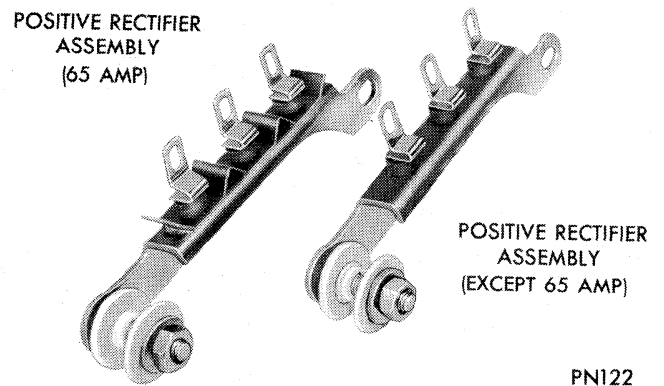
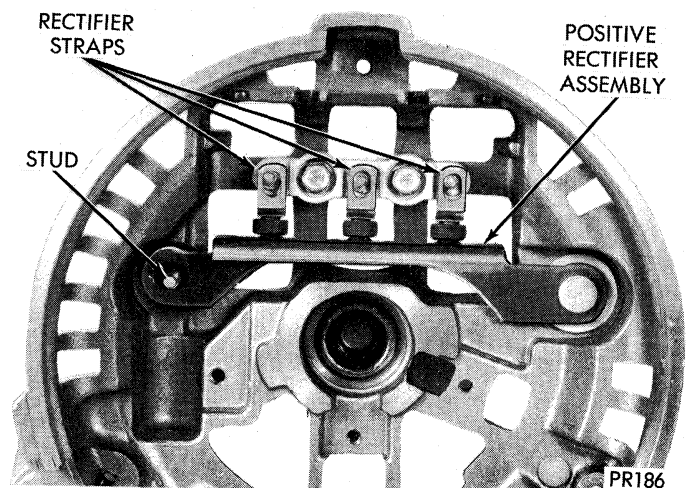

Fig. 33—Positive Rectifier Assembly
Fig. 34—Installing Positive Rectifier Assembly
(7) Install positive heat sink assembly, (Fig. 33) by placing battery terminal through round plastic insulator and capacitor end over heat sink mounting stud; guide three diode straps over studs on terminal block, (Fig. 34).